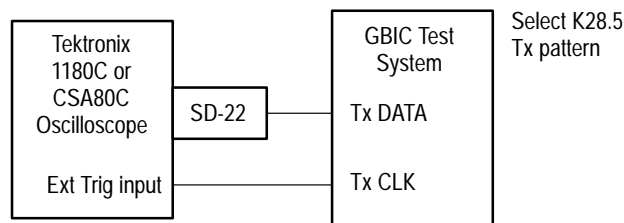

Figure 25: Tx Data Deterministic Jitter Test Setup
2. Connect an SMA cable between the Tx DATA output of the GBIC Test System and the SD-22 input of the oscilloscope as shown in Figure 25.